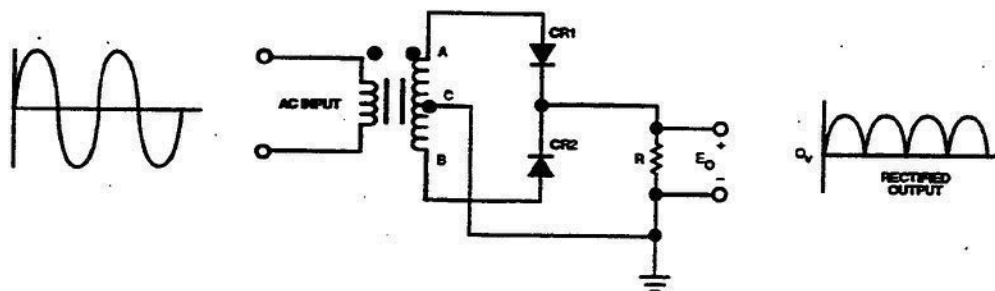

Figure 3-9. Positive full-wave rectifier.
**Full-wave.** The disadvantages of half-wave rectifiers can be overcome by using a full-wave rectifier. In a full-wave rectifier, two diodes are connected so that each conducts during alternate half-cycles of the AC input. The two diodes have a common load and the current flows through this load, always in the same direction (fig. 3-9). Note the two dots over the transformer. This indicates that instantaneous polarities are the same at this point. In other words, there is no phase shift between the primary and secondary in this circuit.
5. On the positive alternation of the input cycle (fig. 3-9), which CR is conducting and which is reverse biased?